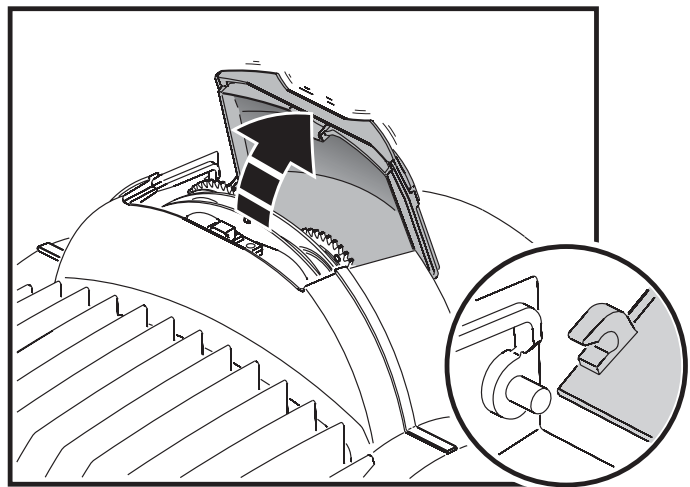

Figure 14: Effects access hatch
The smartMAC effects hatch (see Figure 14) gives instant access to gobos and color filters.
2. See Figure 14. Flip the effects access hatch open.